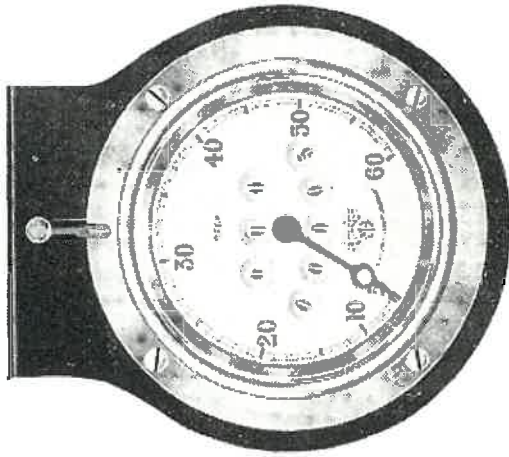

Figure 2.— Type No. AA21.
- Type AA21. Semi-Flush Bracket model ... (Fig. 2)
SEMI-FLUSH STANDARD AND DE LUXE INSTRUMENTS ON BRACKETS (similar to Fig. 2). -- The instrument itself must be taken out of the bracket by removing the four screws in the flange--access will be gained to the back of the bracket through the front opening, and the bracket can be attached to the dashboard by three wood screws or bolts and nuts. The instrument flanges and its four screws must then be replaced. Tighten the screws well, and do not let your screw-driver slip.